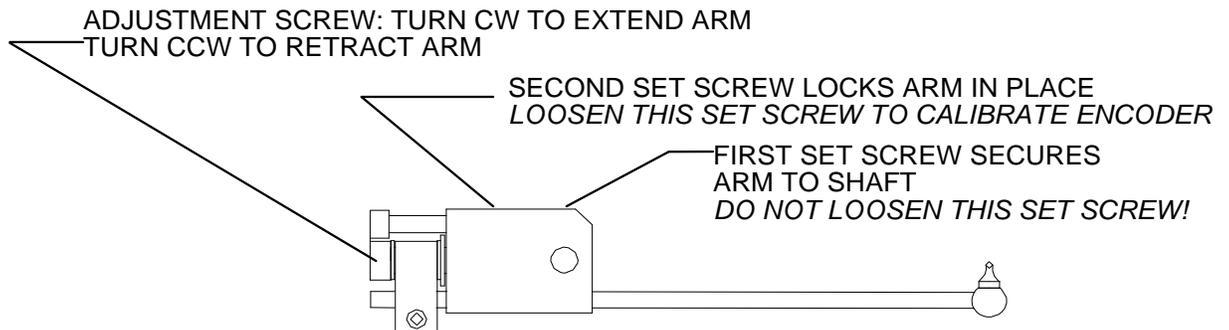
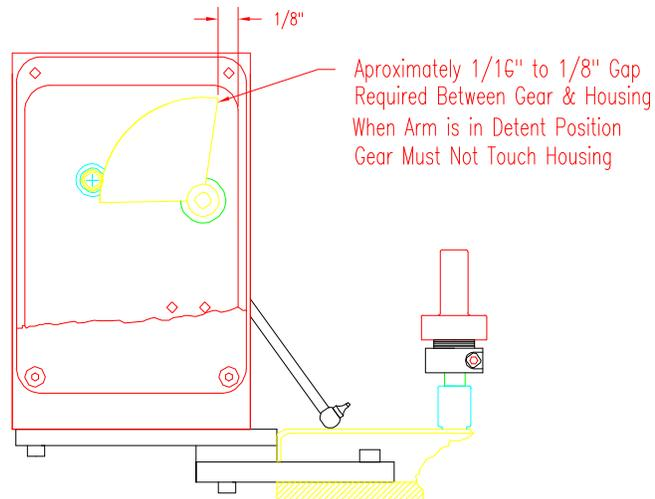

Figure 1
Figure 2
Installation Steps (See Figure 1);
Loosening the arm set screw shown in Figure 1 (5/64" Allen Wrench). *Be sure to loosen the proper set screw, otherwise the entire arm will come loose from the shaft. If the first set screw is accidentally loosened then the left cover must also be removed and the first set screw retightened when the arm is in the full down position when the gear is oriented as shown in Figure 2.* The second set screw has been locked with removable Loctite and may be stiff. After loosening the second arm set screw, determine how far the adjustment screw on the arm (see Figure 1) must be turned by using Table 1 & the results from step 3. For example if the difference in the micrometer head readings from step 3 yielded 25.45mm,
5. Recheck the encoder calibration by repeating the micrometer measurements in steps 2 & 3. If further adjustment is required then again use Table 1 to determine the appropriate degrees of movement. Repeat this process until the arm is calibrated. Once the arm is calibrated, secure the arm in place by re tightening the second arm set screw (see Figure 1). Apply removable thread locker (Loctite type 290 or equivalent). Reinstall the cover and tighten all hardware.